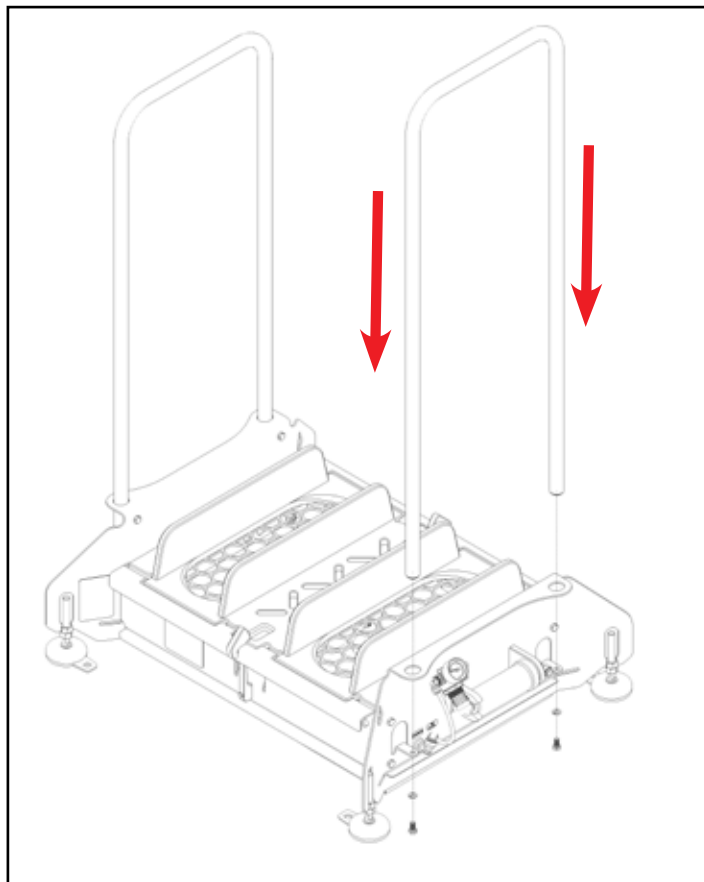

Fig. 5.1: Installing Handrail
1. Place handrails through the mounting holes on each side of the unit [Figure 5.1].